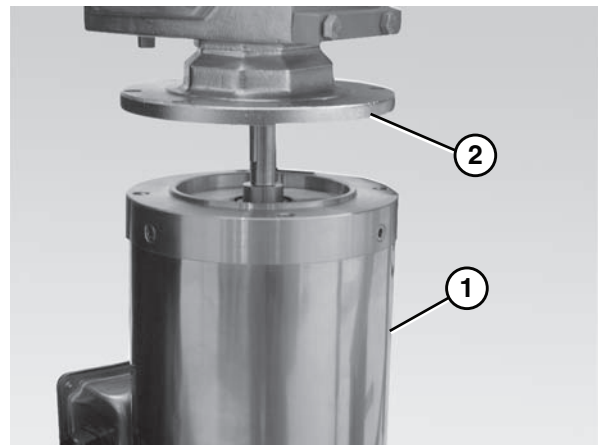

Figure 22
2. Disconnect the motor (Figure 22, item 1) from the gear reducer (Figure 22, item 2) and set the motor aside.